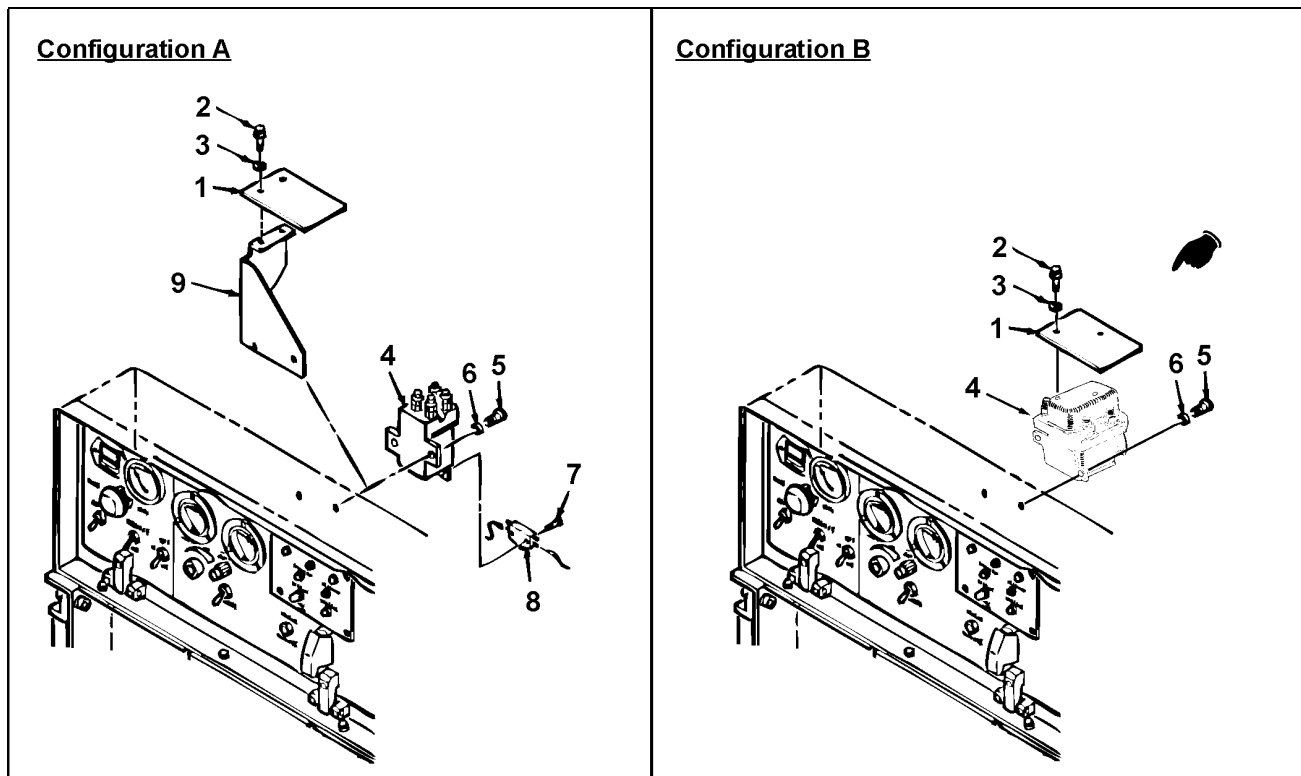

Figure 4-19. AC Circuit Interrupter Contactor
There are two different contactor (4, Figure 4-19) configurations for the 3kW generator sets. Where noted, follow the procedures below for the configuration shown in Figure 4-19 which matches the generator set on which you are performing maintenance. If you are replacing the contactor, the Configuration B contactor must be installed.
2. Configuration A: Remove protective plate (1, Figure 4-19) from bracket (9) by removing screws (2) and lockwashers (3).
Configuration B: Remove protective plate (1, Figure 4-19) by removing screws (2) and lockwashers (3).
3. Tag and disconnect electrical wiring from AC circuit interrupter contactor K1 (4).
4. Configuration A: Remove contactor K1 (4) and bracket (9) from back of control box by removing screw and captive washer assemblies (5) and washers (6).
1. Configuration A: Install microswitch (8, Figure 4-19) onto AAC circuit interrupter contactor K1 (4) using screw and captive washer assemblies (7).
2. Configuration A: Mate contactor K1 (4) and bracket (9) to back of control box. Secure using screw and captive washer assemblies (5) and washers (6).